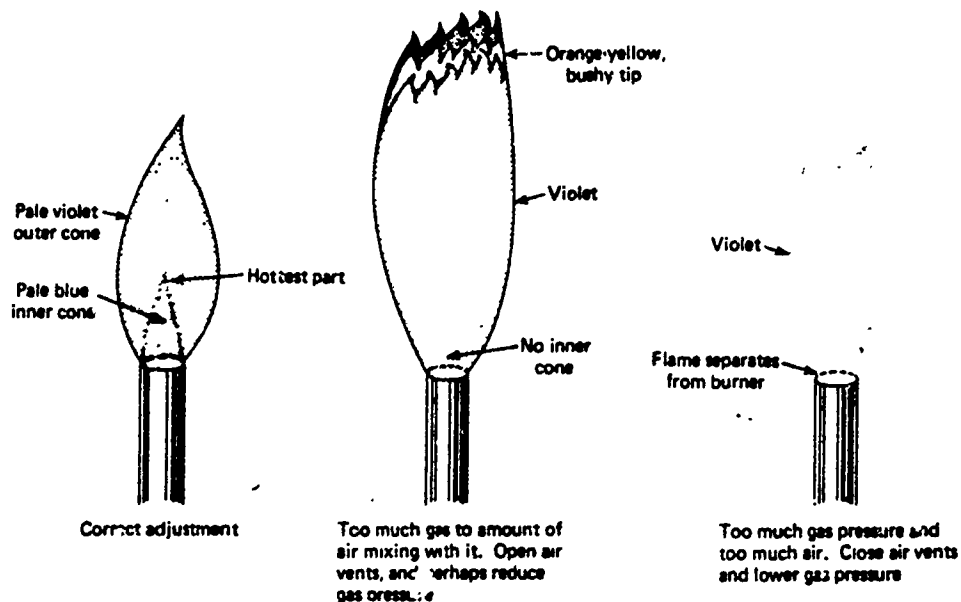

Figure 3. Various flame adjustments for Laboratory Burners
5. Refer to Figure 3 and adjust the flame correctly to give the highest possible temperature. Lower a wire screen supported by a ring into the flame. At which part of the flame does the wire screen appear the hottest? _____